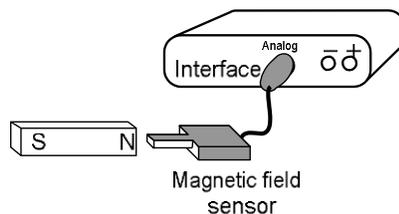

Figure 9
- 2) Hold the sensor still and away from any magnets, walls, metal, or electronic equipment, then press the tare button. Verify that the reading is stable and approximately 0. Measure the magnetic field strength  $B$  at one end of the magnet; be sure the tip of the sensor is touching the magnet and is parallel with the magnet. (See Figure 9). DataStudio displays measurements of magnetic field in gauss  $B_G$ , but values for magnetic field strength should be in teslas  $B_T$  when calculating magnetic flux  $\Phi$ . Record the magnitude of the measured value as  $B_G$ , convert this value to teslas using  $10,000 \text{ G} = 1\text{T}$ , and then record the converted value as  $B_T$  in the spaces provided below.